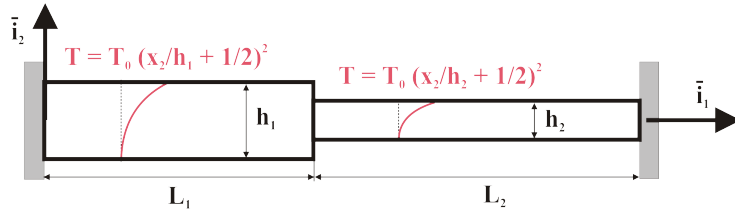

Figure 4: Bi-cantilevered beam under parabolic thermal gradients.
Consider the bi-cantilevered beam with a sudden change in cross-section geometry, as depicted in fig 4. The left portion of the beam is of length L_1 and the rectangular cross-section has a width b and height h_1 , whereas the corresponding dimensions for the right portion of the beam are L_2 , b and h_2 , respectively. Both portions of the beam are subjected to a parabolic thermal gradient, as indicated on the figure. (1) Find the axial and transverse deflection